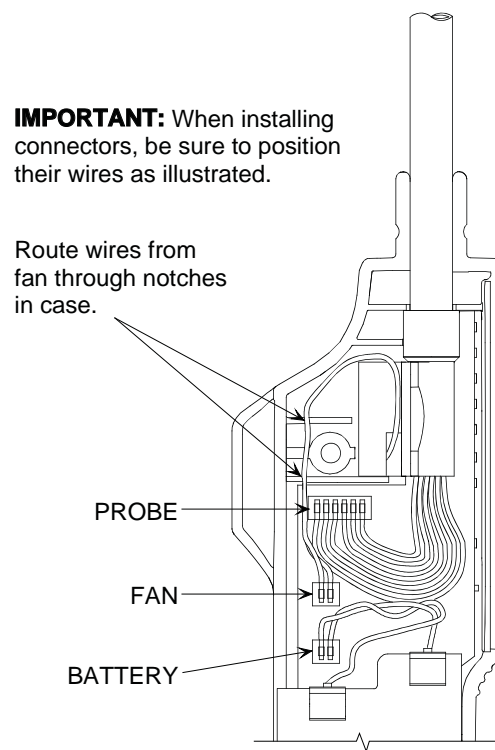

Figure 8. Connector Locations on Printed Circuit Board
7. Plug both the probe and fan connectors onto their respective header pins on the printed circuit board as shown in Figure 8.
8. Position the probe assembly between the two case halves, routing the fan wires through the notches in the case as shown in Figure 8. Then reassemble the case, push on the front retaining collar, screw on the probe tip, and reinstall the batteries.
| Instrument does not turn on. | <ul style="list-style-type: none"> a. Batteries are dead or installed backward. Install four fresh ‘AA’ alkaline batteries per Section Battery Installation. b. Faulty refrigerant sensor. Remove sensor and turn on detector. If detector now turns on, replace sensor per Section Sensor Replacement. c. Loose printed circuit board connector. Disassemble detector and ensure that all connectors are securely attached to the printed circuit board. See Figure 8. |
| Erratic gas indication. | <ul style="list-style-type: none"> a. Windy conditions. Shut off surrounding fans; protect probe tip from wind; switch to low-sensitivity per Section Normal/Low Sensitivity Mode. b. Loose sensor. Unscrew probe tip and ensure that sensor is being held firmly in socket. c. Sensor faulty. Replace sensor per Section Sensor Replacement. d. Loose printed circuit board connector. Disassemble detector and ensure that all connectors are securely attached to the printed circuit board. See Figure 8. |